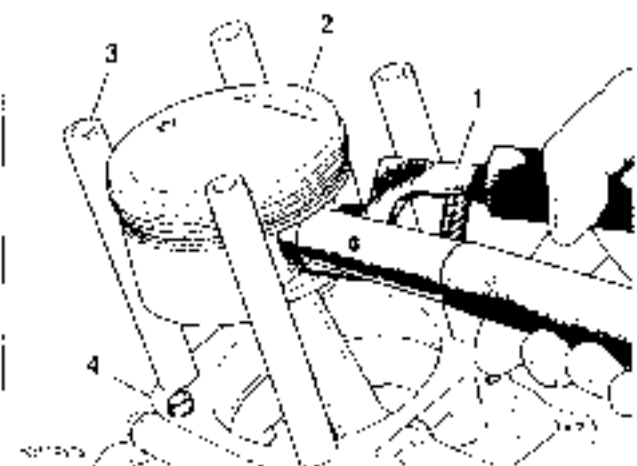

Figure 3-27. Piston Pin Circlip Removal (Part No. HD-42317)
5. See Figure 3-27. Remove O-ring from dowel pin (4) on base of cylinder deck. Discard O-ring.
2. See Figure 3-27. Remove the piston pin circlip:
- a. Insert the PISTON PIN CIRCLIP REMOVER/INSTALLER (1) (Part No. HD-42317) into the piston pin bore. Position claw on tool in slot of piston (2) (directly under circlip).